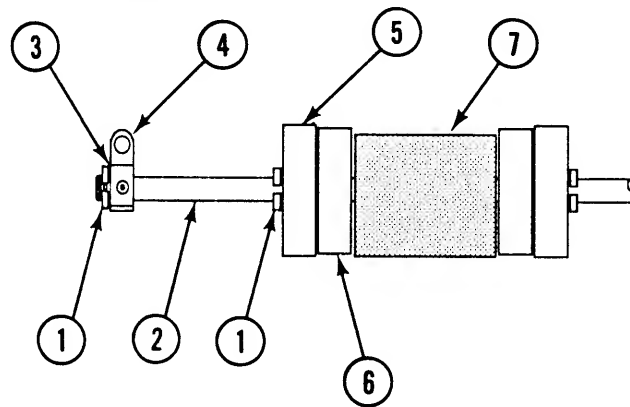

FIGURE 47
2. Using the small screwdriver, remove the two pickup roller C-rings (Figure 47, #1).
3. Remove the following items from the paper feed roller shaft (Figure 47, #2):
- washer (Figure 47, #3)
- bearing (Figure 47, #4)
- roller (Figure 47, #5)
- cam (Figure 47, #6)
- pickup roller (Figure 47, #7)
2. Replace the two pickup roller C-rings (Figure 47, #1).